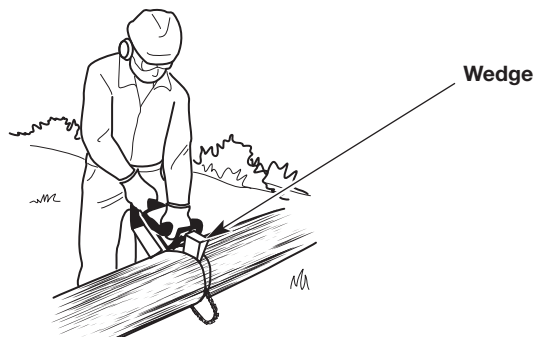

Fig. 26
2. Make the second cut from the opposite side until the two cuts meet. If the diameter of the wood is large enough, insert soft plastic or wooden wedges to hold the cut open and prevent pinching (Fig. 26). Take care not to touch the wedges with the saw chain.